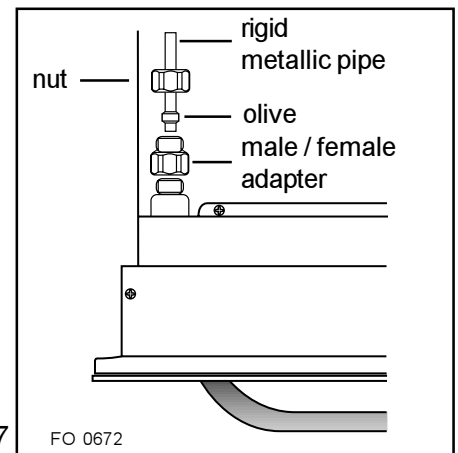

Fig.7
- 2) Fig. 7 — rigid metallic pipe (soft copper - minimum diameter: 8 mm) — insert the copper pipe into the connection ramp after fitting the correct nut and olive onto the copper pipe using a male / female adapter (not supplied).